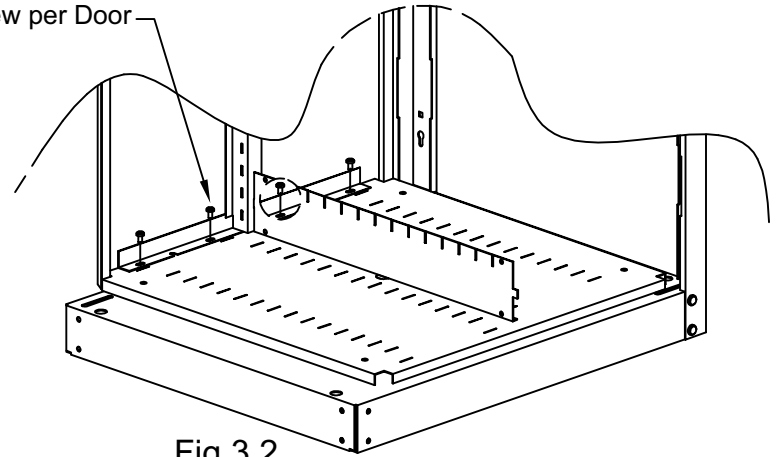

Fig 3.2
Secure doors to the bottom swivel pan using (4) 1/4-20x1/2" Pan Head Screws per door. (Fig. 3.2). Do not fully tighten screws.
(4) 1/4-20X1/2" Pan Head Screw per Door